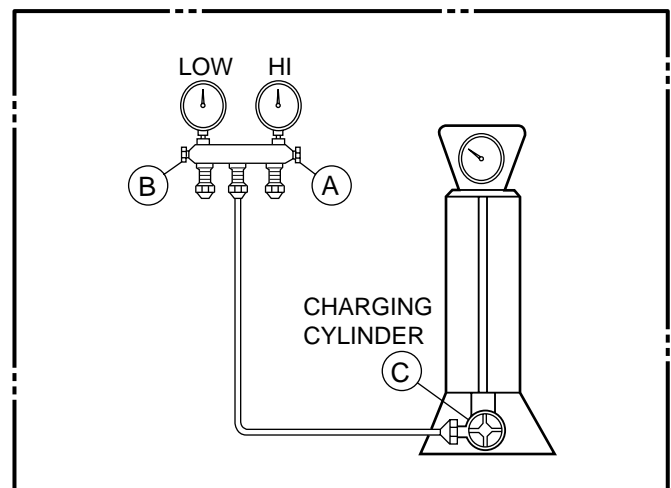

Figure 27B-Charging
- 2) Connect the charging cylinder as shown in Figure 27B. With valve C open, discharge the hose at the manifold connection.